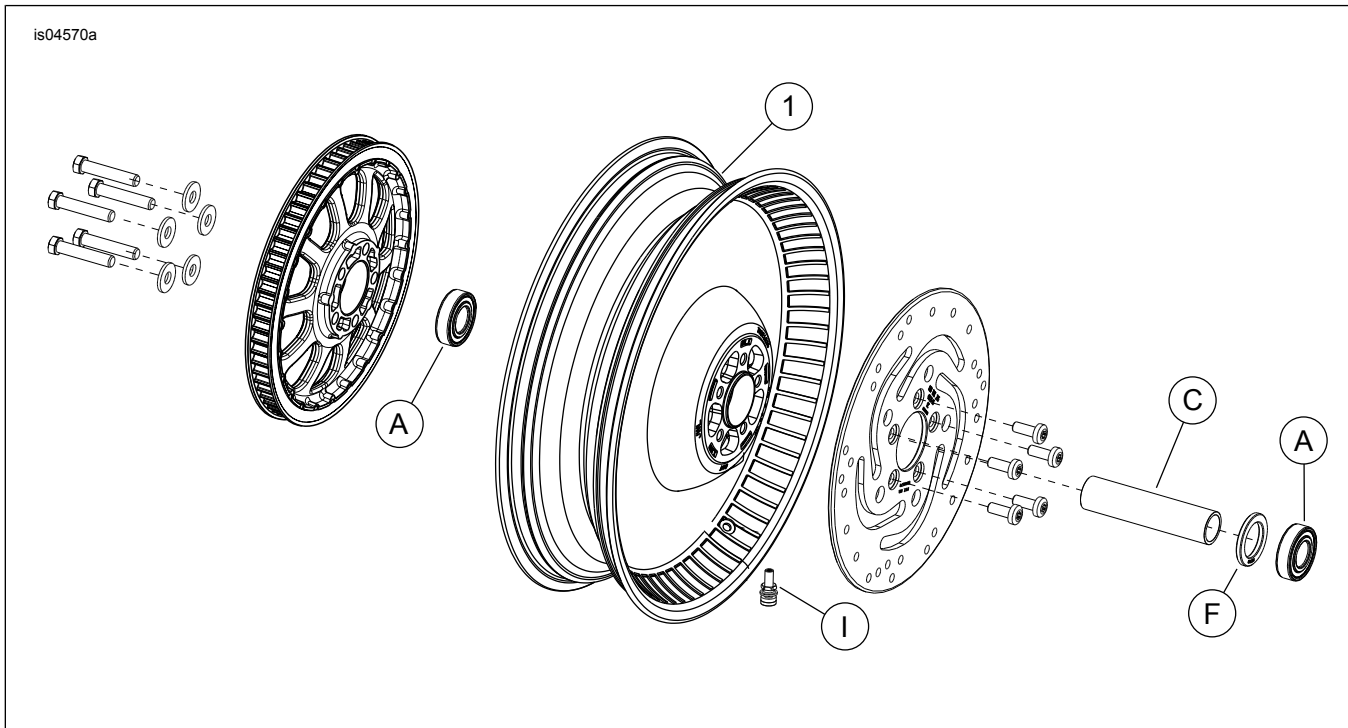

Figure 1. Service Parts: Rear Deuce Wheels
See Figure 1 and Service Parts Tables.
- See Figure 1. Install valve stem assembly (I) on wheel. Refer to TIRES in service manual.